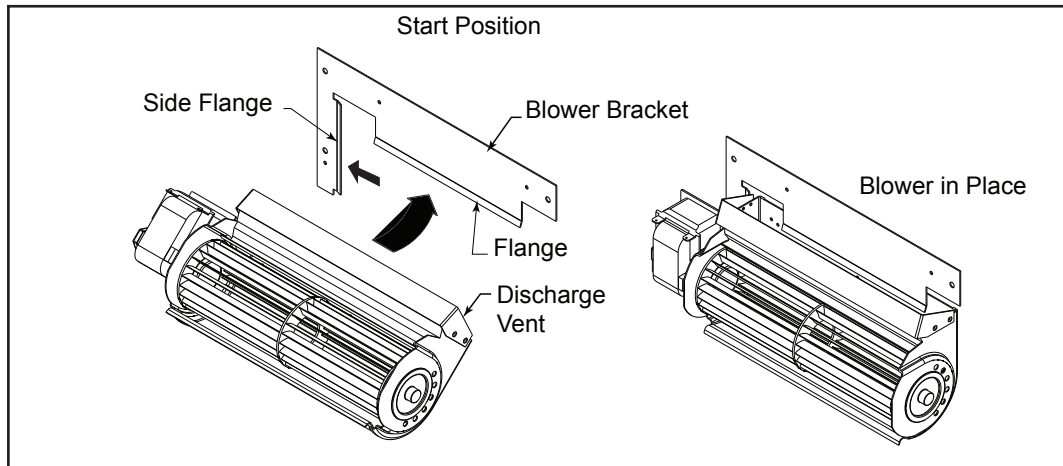

Figure 6
3. With blower in lower access compartment, turn the discharge vent so it is facing up. Slip the discharge vent flange under the flange of the mounting bracket flush up against the back wall. Slide the side tabs over into the side flange. Figure 6
3. With blower in lower access compartment, turn the discharge vent so it is facing up. Slip the discharge vent flange under the flange of the mounting bracket flush up against the back wall. Slide the side tabs over into the side flange. See Figure 6.